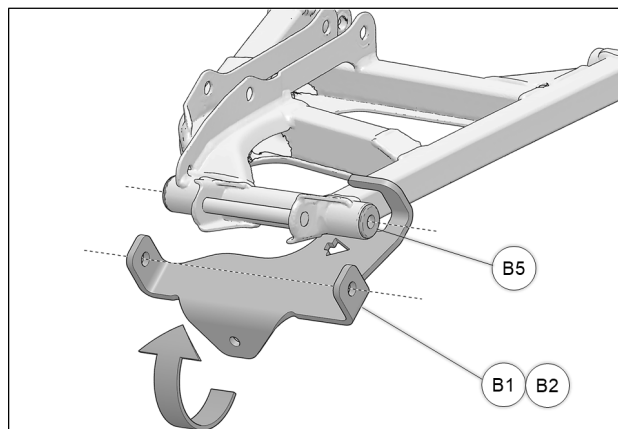

Fig. 6
6. Pivot front of bracket (**B1-B2**) up to suspension arm and align holes in bracket with bushings (**B5**). See Fig. 6